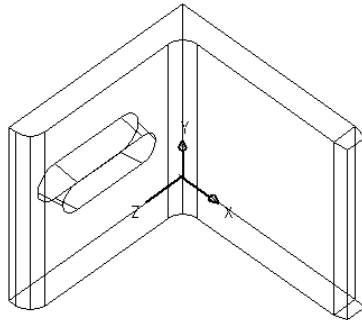

Figure 24-43: The edited mounting angle.
9. At the Specify the base point: prompt, pick the midpoint at ①.
10. At the Specify another point along the axis of tapering: prompt, pick the midpoint at ②.
12. Right-click and choose Delete. At the next prompt, select the filleted face at ③. Right-click and choose Enter. AutoCAD removes the fillet.
13. Right-click and choose Extrude. At the next prompt, select the face at ③ by picking inside the face. Right-click and choose Enter.
17. Save your drawing. It should look like Figure 24-43.